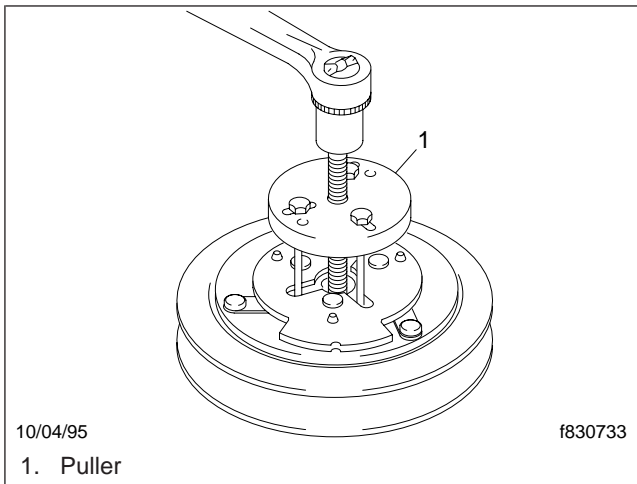

Fig. 3, Remove the Drive Plate
4. Using the drive-plate puller, thread the three puller bolts into the drive plate. Turn the center screw clockwise to loosen and remove the drive plate. See Fig. 3.